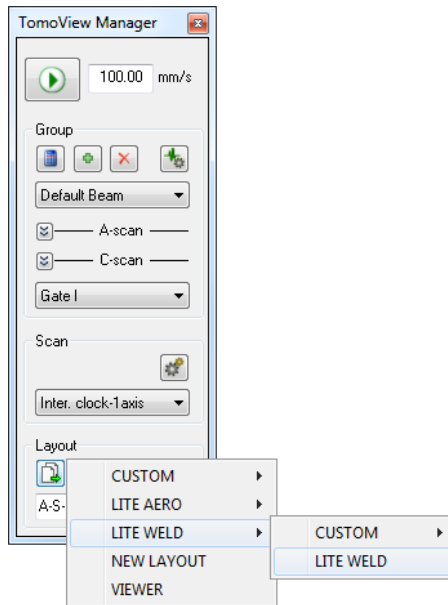

Figure 4-35 The Template Layout menu on the Control bar
1. In the **TomoView Manager** dialog box, click  to select a Template layout file (see Figure 4-35 on page 262).